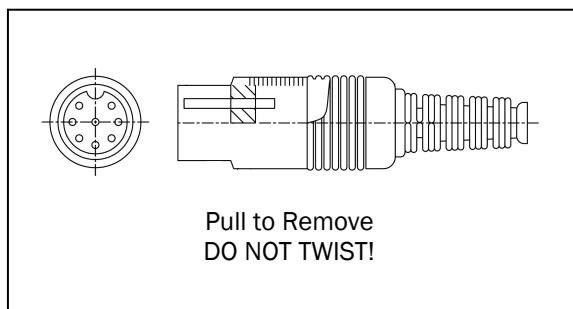

FIGURE 2. PROBE CABLE CONNECTOR REMOVAL
6. As shown in Figure 2, remove the left-most cable connector by gently pulling the cable plug from transmitter. **Do not twist connector!**